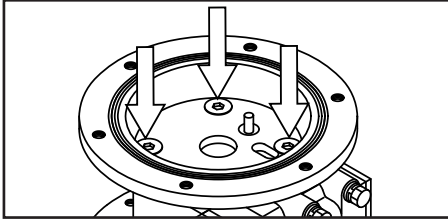

Figure 21
- Remove the 12 retainer bolts from the air chamber and remove the air chamber (See Figure 21).